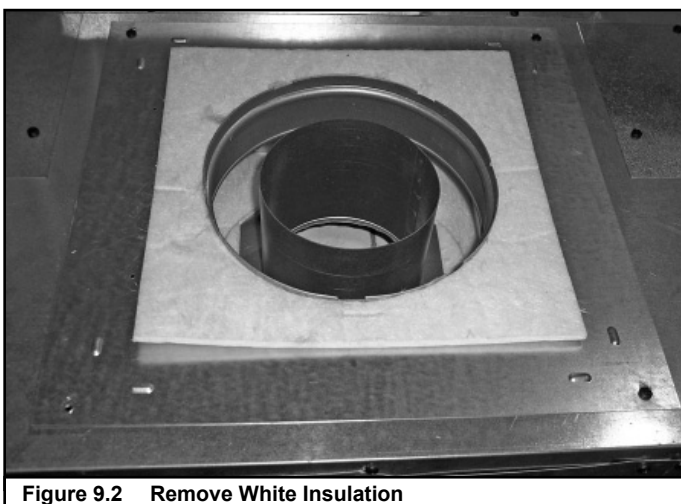

Figure 9.2 Remove White Insulation
**Note:** If the appliance is to be top vented discard this plate and replace the screw you removed. If the appliance is to be rear vented, continue to the next step and Figure 9.2.
- Remove the white insulation and set aside. See Figure 9.2.